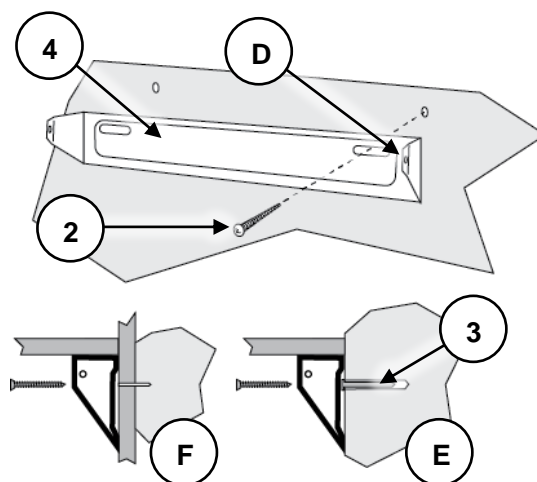

Figure 3
5. Refer to *Figure 3*. Drill the flue extension mounting bracket (4) holes, then secure the bracket to the wall using 2 mounting screws (2), making sure that the tabs with the screw holes (D) are up against the ceiling – the flue extension screws to these tabs. Tighten the screws – be careful not to over-tighten the screws and strip them or cause the wall plugs to spin.
- If the wall is brick, cement or masonry (E), use the wall plugs (3) – drill 5/16" (approximately 8mm) to a depth of 50mm (2"), then tap the wall plugs into the holes.
- If the screws are to be installed directly to a non-masonry wall or suitable material behind the wall (F), drill a 3mm (1/8") "pilot" hole to a depth of 20mm (3/4") to enable the screw to "dig in" easily.